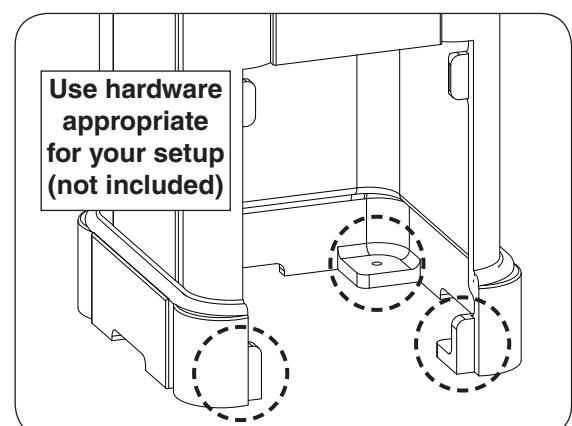

Fig. 15-4 Mount pedestal base to floor
2. Using appropriate mounting hardware for the floor material/construction, secure the lantern base into the floor. The interior of the base has four 1/2" holes that will allow for the base to be fastened to the floor. See Fig. 15-4.